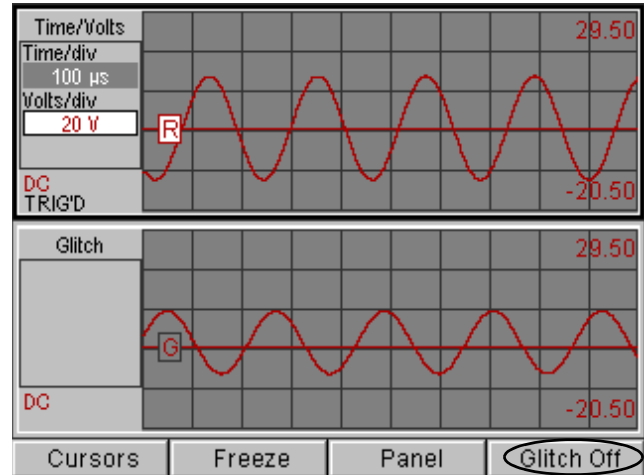

Figure 7.47: Lab Scope Screen, Glitch On - After Glitch Occurs
- 5 The software now monitors the waveform for a glitch to occur. When a glitch occurs, the glitch area of the waveform displays in the bottom panel, as shown in Figure 7.47. Each time a glitch occurs, the bottom panel changes to the new glitch data.